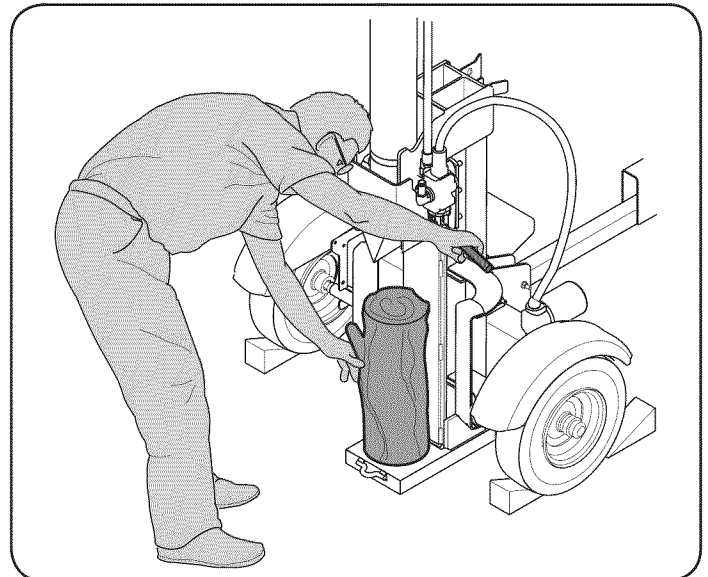

Figure 12
3. Stand in front of the log splitter to operate the control handle and to stabilize the log. See Figure 12.